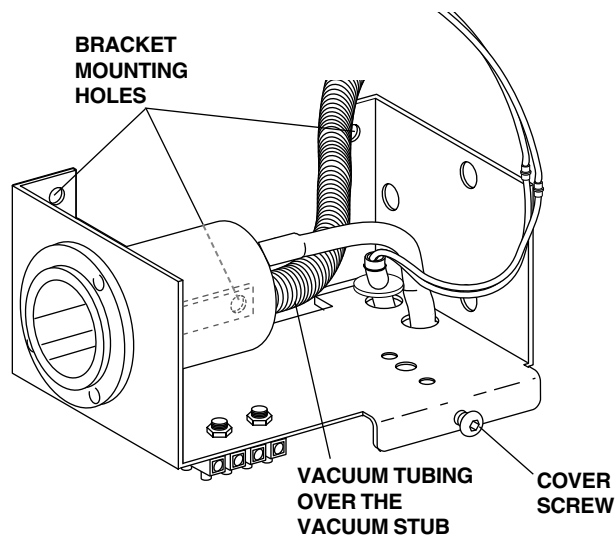

FIGURE 2
- Place the mounting bracket assembly against the cabinet face and use a Phillips screwdriver to install the three mounting screws (see Figure 2). Tighten the screws.
- Apply a liberal amount of silicone sealant to the vacuum stub on the vacuum canister (see Figure 2).
- Connect the vacuum tubing to the vacuum stub (see Figure 2).